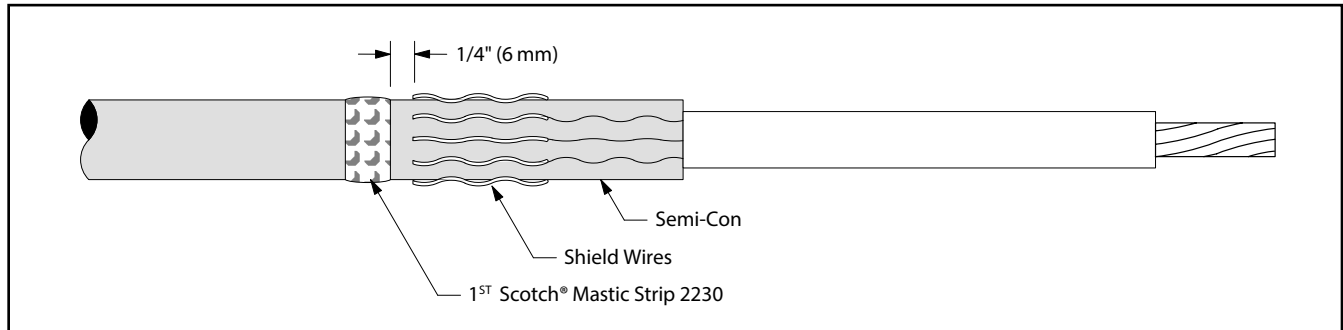

Figure 19
- 13.1 Select a Scotch® Mastic Strip 2230 from kit and remove white release liners. Using light tension, apply a **SINGLE WRAP** of mastic around the cable semi-conductive jacket 1/4" (6 mm) from shield wires (*Figure 19*). Cut off excess.